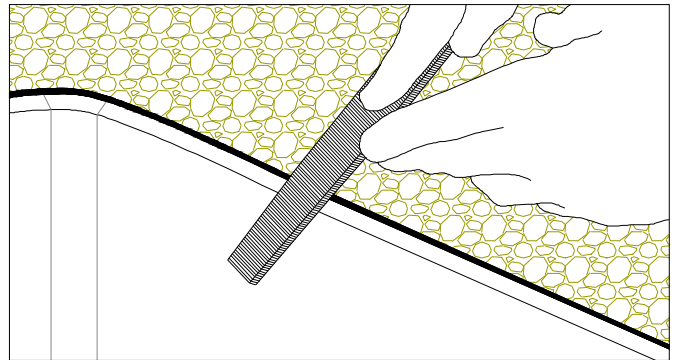

Figure 23B
- Soften the sharp edge of the laminate with a laminate file. (FIG. 23B)